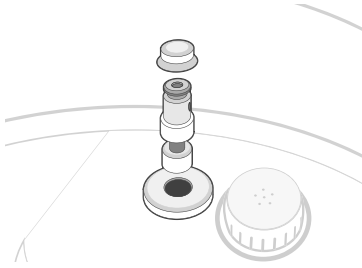

Figure 10.3
- b. Remove the silicone cap from the float valve. The float valve may drop out unexpectedly without the silicone cap, so remove carefully. [Figure 10.3]